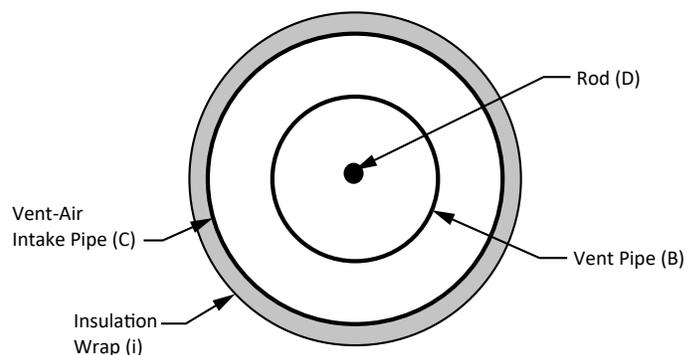
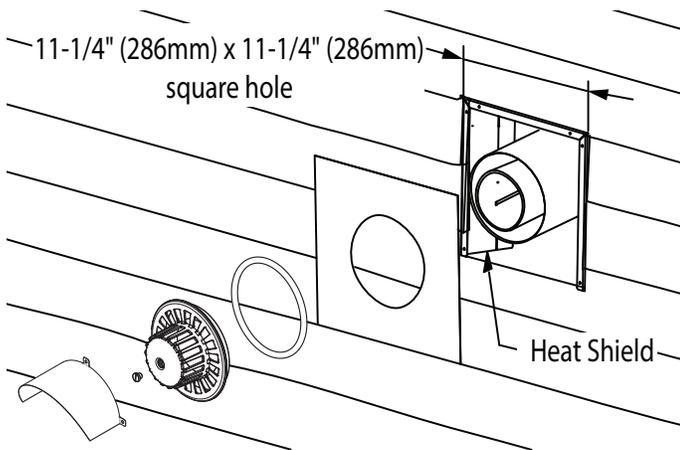

Figure 27
Figure 28
- (B) vent pipe
- (C) vent-air intake pipe
- (D) rod
2. The hole at the outside of the wall must be a square of 11-1/4" (286 mm) x 11-1/4" (286 mm) (see figure 28).
3. Slide the heat shield (K) into the 11-1/4" (286 mm) x 11-1/4" (286 mm) square hole. Secure the heat shield (K) to the wall bracket using the appropriate hardware.
4. From the outside of the wall, screw the rod (D) slightly onto support located inside the appliance flue outlet.
5. Wrap the vent-air intake pipe (C) with the provided insulation (i) (foil side out) and place the provided strip of tape (H) down the seam to secure it.
6. Slide the smaller vent pipe (B) (from outside your house) through the hole in the wall and attach to the mounted heater inside your house. Be sure the vent pipe is snug and engaged to the heater. Then slide the larger Vent-Air Intake Pipe, with the insulation wrapped and taped to the outside of the pipe, through the same hole and over the smaller Vent Pipe (B) and attach to the heater.
NOTE: It is critical that the insulation wrap (i) be wrapped and secured with the tape on the outside of the larger Vent-Air Intake Pipe (C). The insulation is NOT to be wrapped in between Vent Pipe (B) and Vent-Air Intake Pipe (C) (see figure 27).